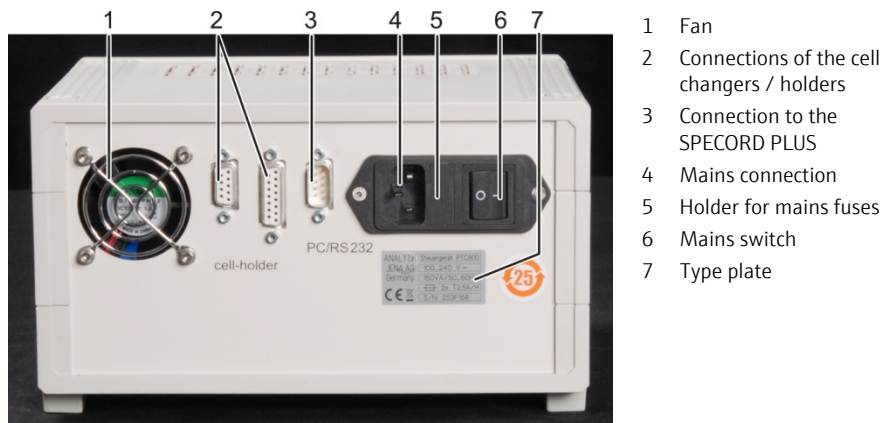

Fig. 64 Connections on the rear of the temperature control unit
2. Pull out the fuse holder (5 in Fig. 64) by the lid.